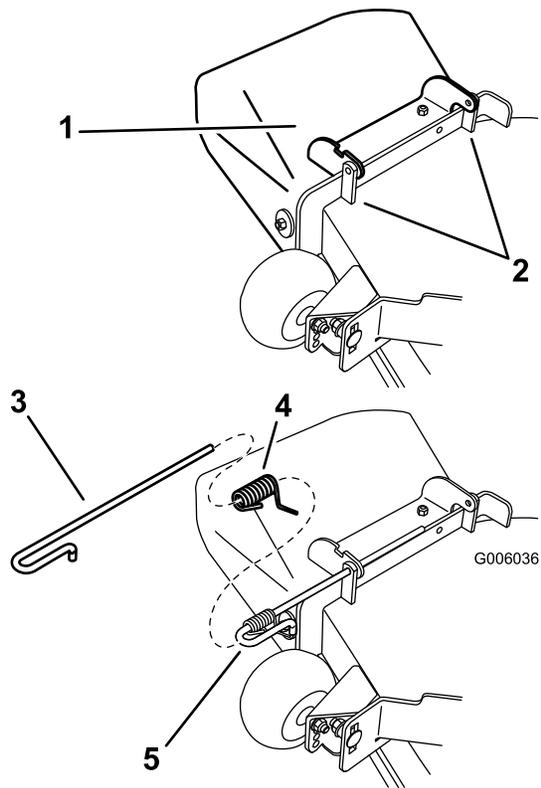

Figure 65
1. Disengage the spring from the notch in the deflector bracket and slide the rod out of the welded deck brackets, spring, and discharge deflector (Figure 65). Remove the damaged or worn discharge deflector.
2. Position the new discharge deflector assembly with the bracket ends between the welded brackets on the deck as shown in Figure 65.